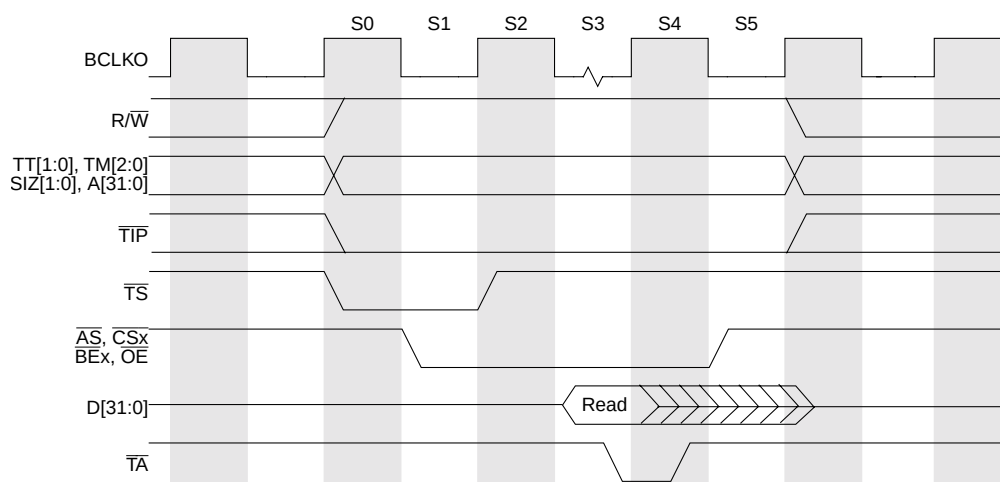
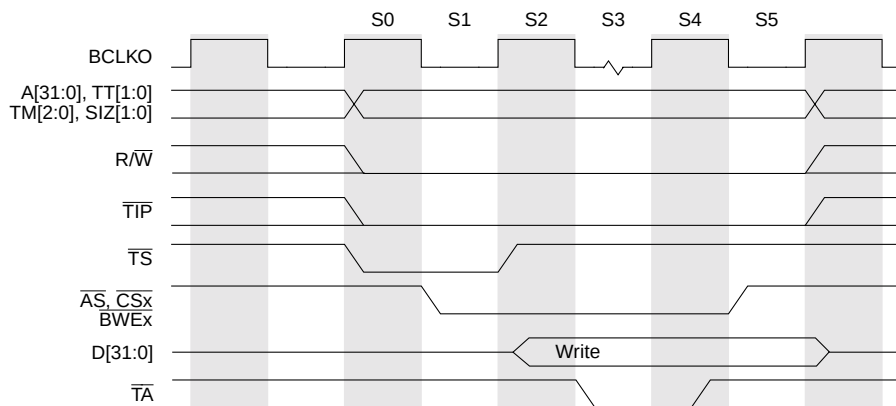

Figure 18-6. Basic Read Bus Cycle
Figure 18-8. Basic Write Bus Cycle
3. The last clock of the bus cycle uses what would be an idle clock between cycles to provide hold time for address, attributes, and write data. Figure 18-6 and Figure 18-8 show the basic read and write operations.
The read cycle timing diagram is shown in Figure 18-6.
The write cycle timing diagram is shown in Figure 18-8.